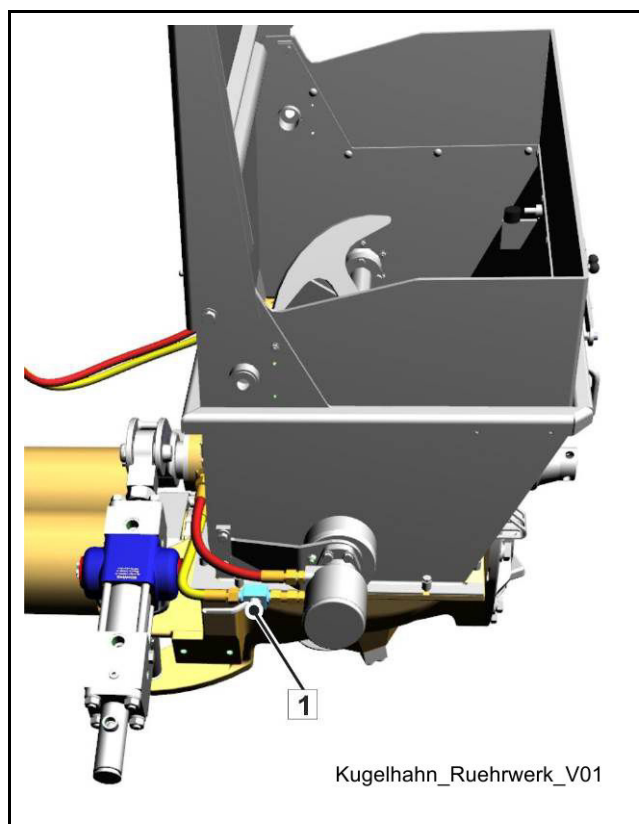

Fig. 143
- To do this, close the ball valve (1) (**Fig. 143**) on the agitator motor.